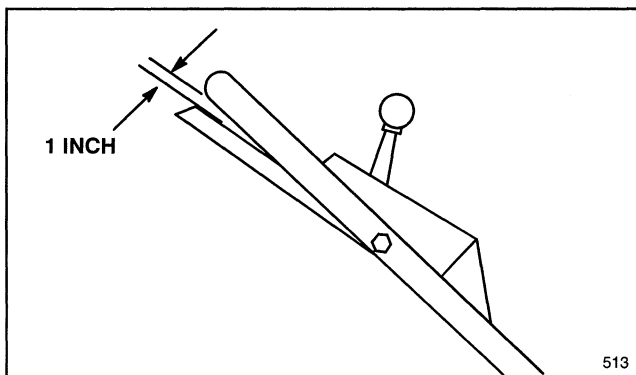

Figure 24
3. CHECK ADJUSTMENT—Slowly pull mower backward while control bar is gradually moved toward handle. Adjustment is correct when rear wheels stop turning and control bar is about 1 –inch from handle (Fig. 24).